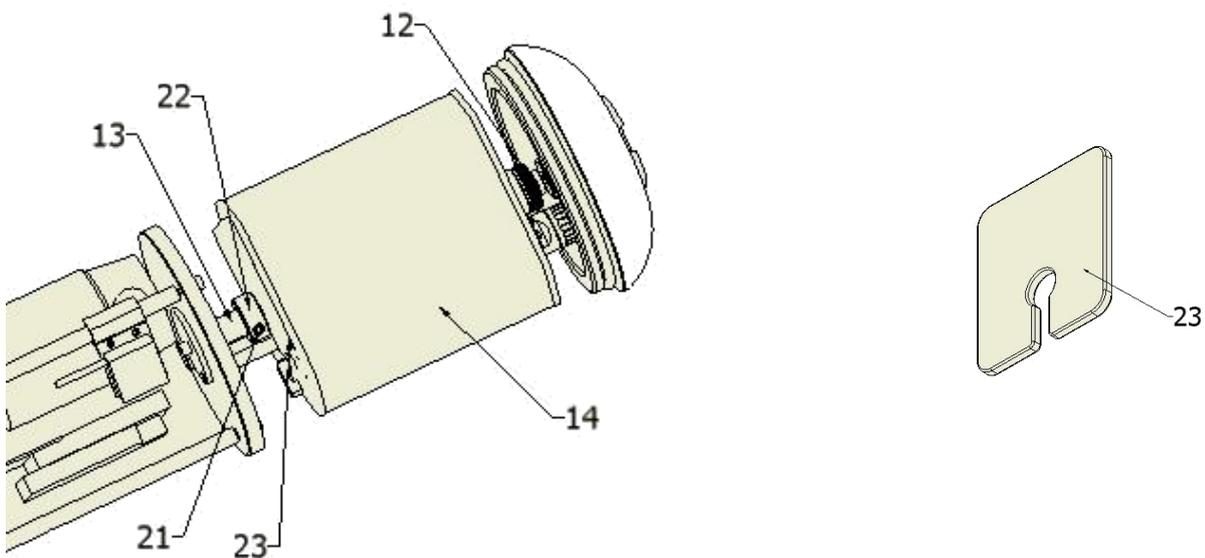

Figure 7 (view of the ADV without the external case)
To recharge the battery, extract the battery (14) from the ADV (see fig. 7), put it in a safe place away from people and flammable objects. Unscrew the charger connector cap (24) and connect the charge connector (26) to the battery charger (see battery charger instructions). Next connect the battery charger power cord to the mains. When charged, disconnect the battery charge and close the connector (26) cap (24) and insert the battery in the ADV.
The ADV should have **NEUTRAL** buoyancy **and be practically horizontal** meaning it should not sink but remain stable at the desired depth. The vehicle is supplied neutrally buoyant or slightly float in fresh water. Additional weights (23), are provided to compensate for differences between use in fresh or salt water (see fig. 7) consisting in a stainless steel cylinders that should be included or removed according to whether the ADV is used in fresh water (NOT USED) or seawater (USED).
Speed can be regulated slow or fast, see the previous paragraph fig. 7.